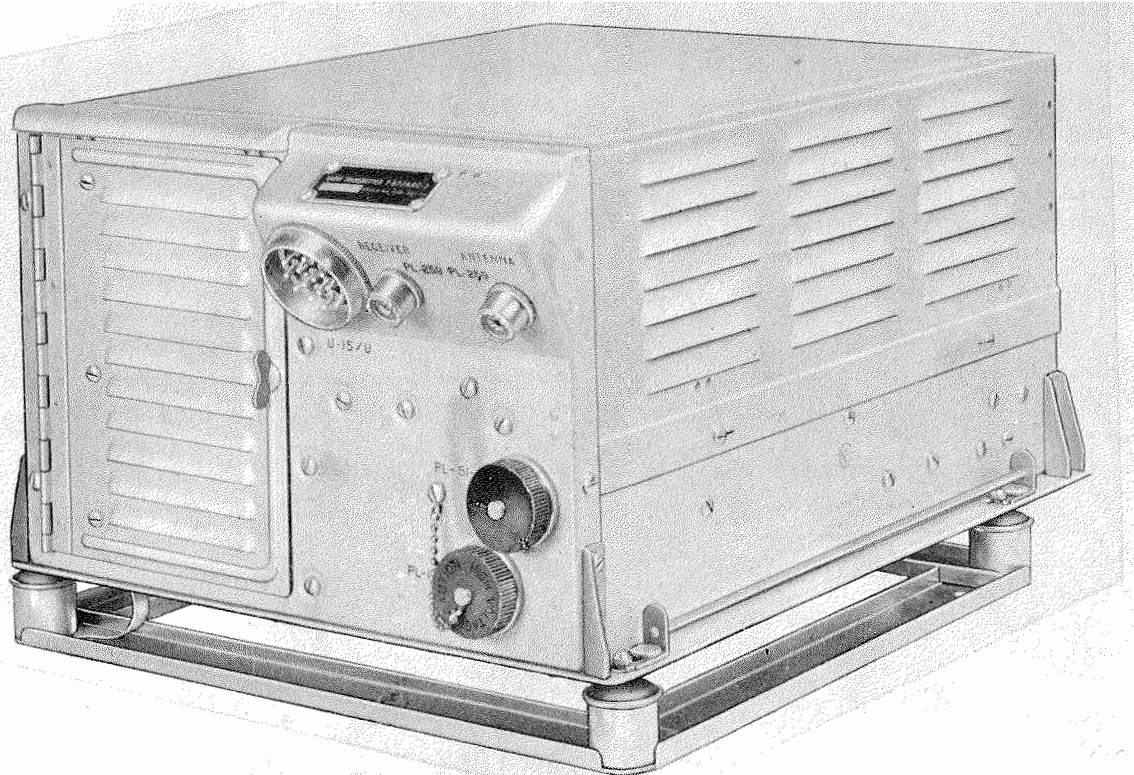
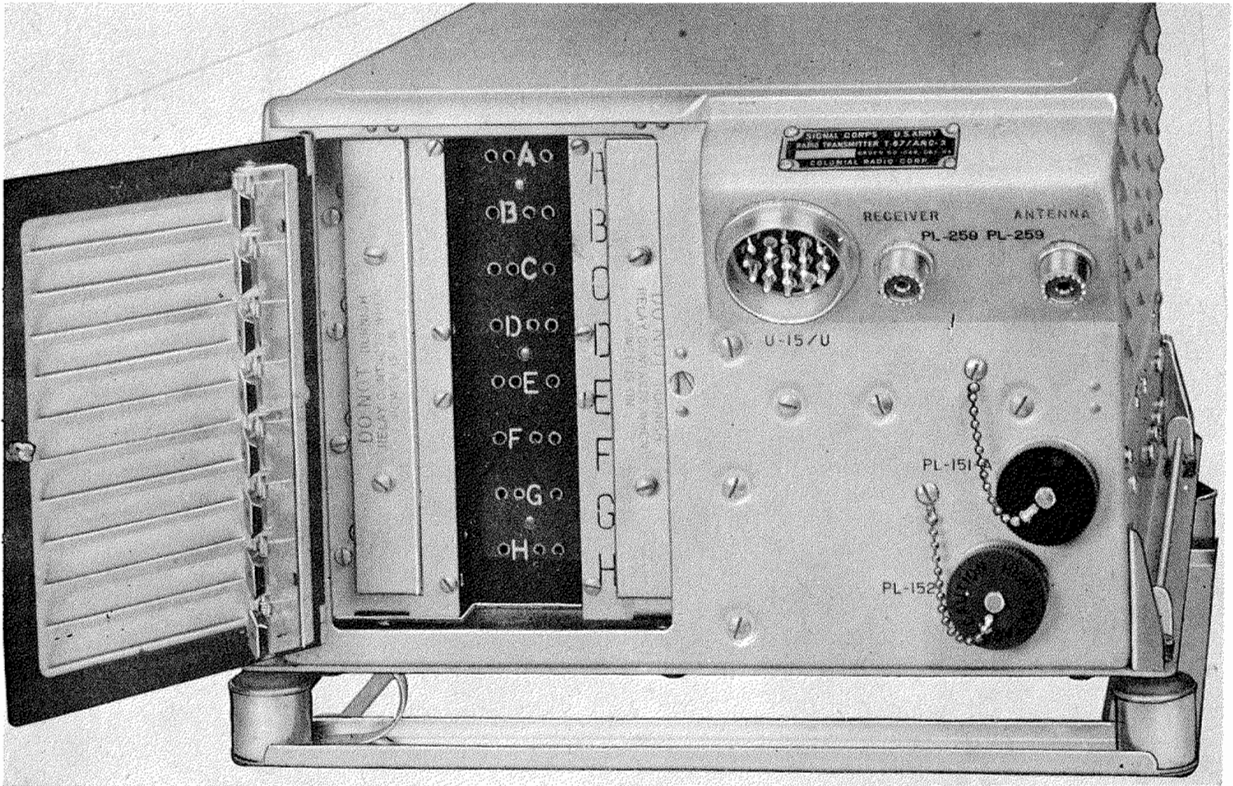

Figure 1-4. Radio Transmitter T-67/ARC-3, T-67A/ARC-3, or T-67B/ARC-3 on Mounting Base MT-238/ARC-3
Figure 1-5. Radio Transmitter T-67/ARC-3, T-67A/ARC-3, or T-67B/ARC-3—Crystal Compartment Door Open
(1) The Radio Transmitter contains nine tubes and provides a crystal-controlled RF power output of approximately 8 watts on any preselected channel. (See figs. 1-4 through 1-9.) Eight preselected channels are provided on Radio Transmitter T-67/ARC-3, T-67A/ARC-3, or T-67B/ARC-3; sixteen channels are provided on Radio Transmitter T-312/ARC-36, T-312A/ARC-36, or T-312B/ARC-36; and forty-eight channels are provided on Radio Transmitter T-452/ARC-49.
(2) The entire transmitter, with the exception of its power supply, is housed in a metal cabinet having a removable bottom and "wrap around" top. (See fig. 1-4.) The removable top part forms the sides and back for that portion of the cabinet above the chassis. Entrance to the crystal compartment is through a metal door on the front panel. On the composition strip inside this compartment are sockets for installing crystals. (See figs. 1-5, 1-7, and 1-9.) Access to the crystal relay points for cleaning is through a removable metal strip on each side of the crystal compartment on Radio Sets AN/ARC-3 or AN/ARC-36. On Radio Set AN/
(3) Receptacles "U-15/U" and "PL-259" for making external connections to the transmitter are mounted on the front panel. The receptacle mounting surface is tilted outward and downward (see fig. 1-4) to provide drainage for the plugs and prevent the accumulation of excessive moisture under humid conditions. At the bottom of the front panel is a red covered receptacle marked "PL-152." This receptacle is used in making connection to Test Unit TS-178/ARM-1 for alignment purposes. Above and to the right of this is a receptacle with a black cover, marked "PL-151." This connection is for tone (MCW) transmission facilities which are controlled by the push-button switch on the control box.